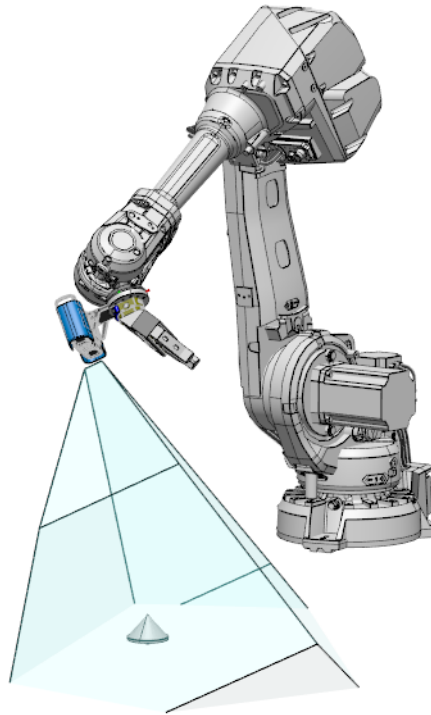

Figure 47: Robot mounted alignment, x-axis and y-axis rotation
- Rotation on the x-axis and y-axis (tilt angles) to the alignment target (figure 47)